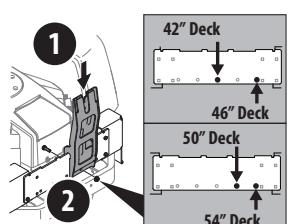

Figure 4
- Install the vertical support bracket onto the mounting assembly on the tractor by hooking it over the mounting assembly as shown in Figure 4.
- Secure the vertical support bracket (1) to the mounting assembly in the mounting hole available for the deck size this bagger is being installed on (2). See Figure 4 for the proper mounting location. Use a hex bolt (710-0376) and flange lock nut (712-04063) from hardware pack 689-02200.